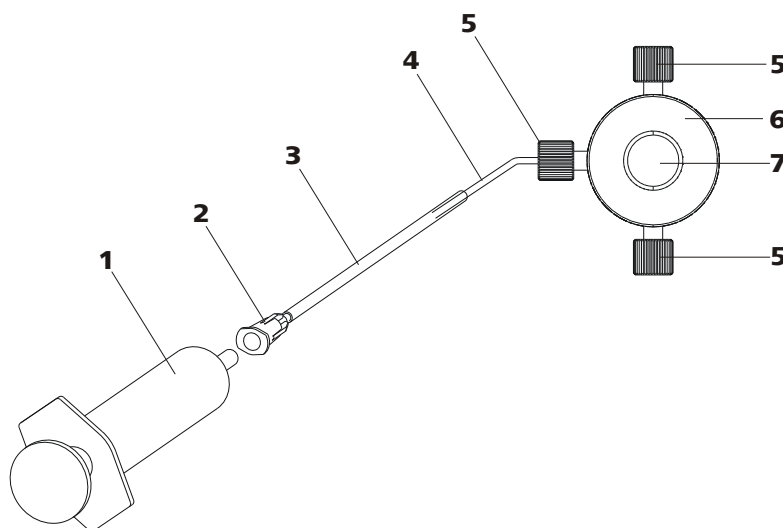

Figure 20 Deaerating the high pressure pump
Deaerate the high pressure pump as follows (see Figure 20, page 41):
- Insert syringe (20-**1**) in the Luer connector (20-**2**) of the purging needle (see Figure 20, page 41).